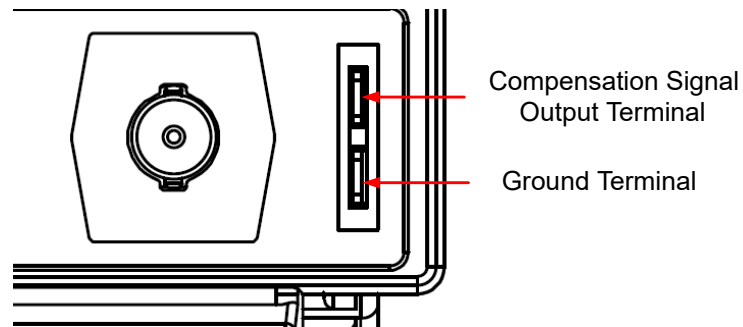

Figure 4.7 Use the Compensation Signal
2. Connect the ground alligator clip of the probe to the "Ground Terminal" as shown in *Figure 4.7* below.
- Use the probe to connect the input terminal of CH1 of the oscilloscope and "Compensation Signal Output Terminal" shown in *Figure 4.7*.